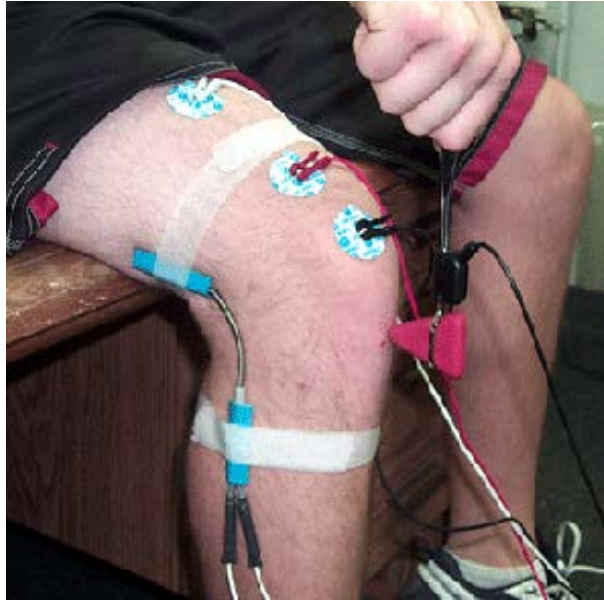

Figure 4: Electrode positioning for knee jerk reflex
1. Place two electrodes on the quadriceps muscle on the front of the thigh, approximately 10 cm apart (Fig. 4). Connect the leads as described below: